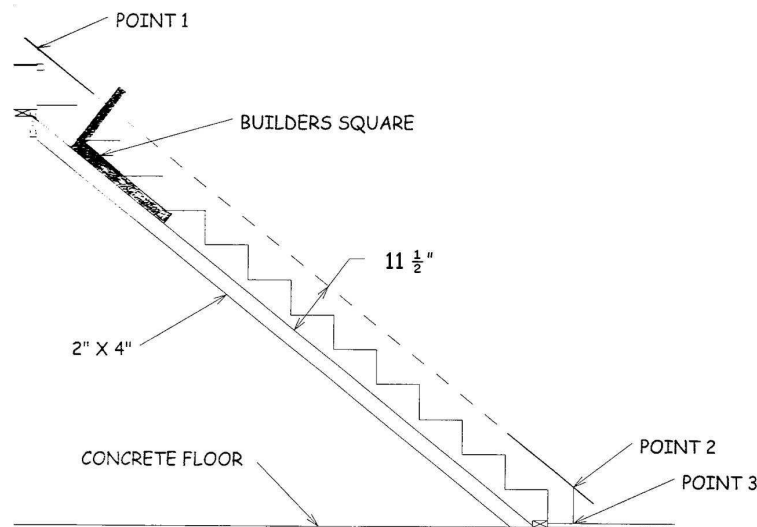

Figure 16-3. Skirtboard Installation.
5. Lay the 24" side of a framing square on the 2x4. Make two marks 11 1/2" up from the 2x4 (the width of the skirtboard) about 3' apart at each end of the stairway (see Figure 16-3). Repeat on the other side of the stairway.
6. Place a 6' level on the two marks at the top of the stairway (from Step 5) and scribe a line across the two marks to a point that intersects the plumb lines from Step 3. This creates Point 1, which must be at least 3" above the floor to be higher than the floor trim (see Figure 16-3). Then, using the two marks at the bottom of the stairway (from Step 5), draw a line to a point that intersects the plumb line. This intersection is Point 2 (see Figure 16-3). Repeat on the opposite side of the stairway.